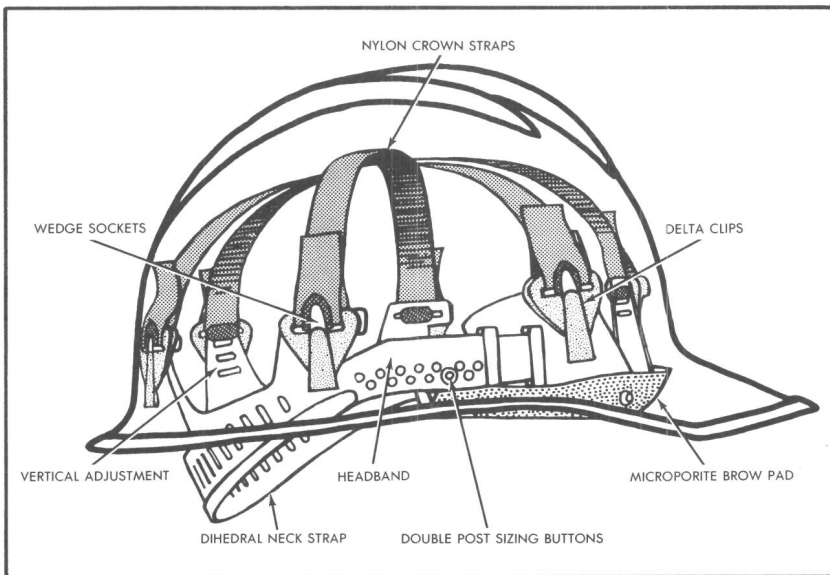

**FIGURE 1. Safety Cap**
**2.01** The safety cap consists of a molded, high-impact white plastic shell equipped with detachable suspension which is adjustable to different head sizes. The Continental Telephone logo is embossed on the front; pressure sensitive reflective strips (avocado and orange) are located on the front and back of the shell for night safety visibility and conformance to Company identification. A glare resistant underbrim is furnished. The safety cap is illustrated in Figure 1 and shall be worn by all